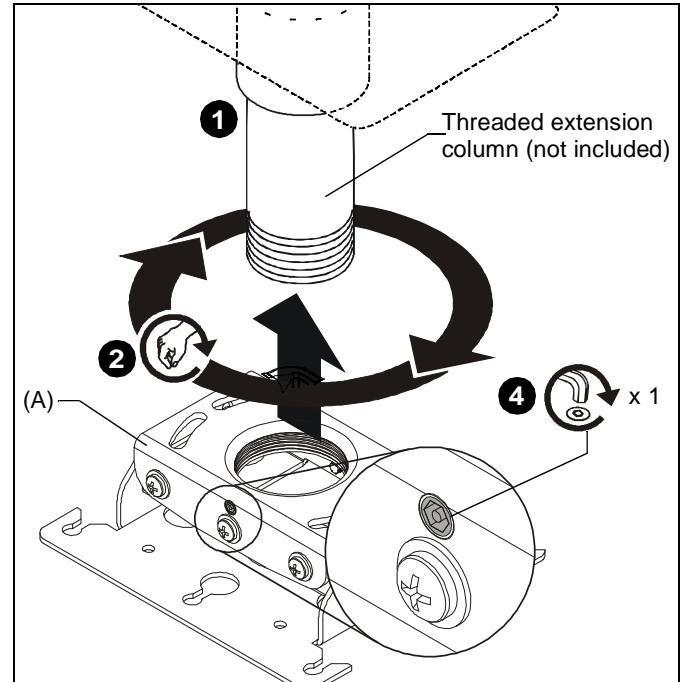

Figure 1
2. Thread RPA projector mount (A) onto the threaded extension column (not included) until hand tight, with a minimum of four threads engaged.
4. Secure RPA to pipe by turning set screw until tight. (See Figure 1)